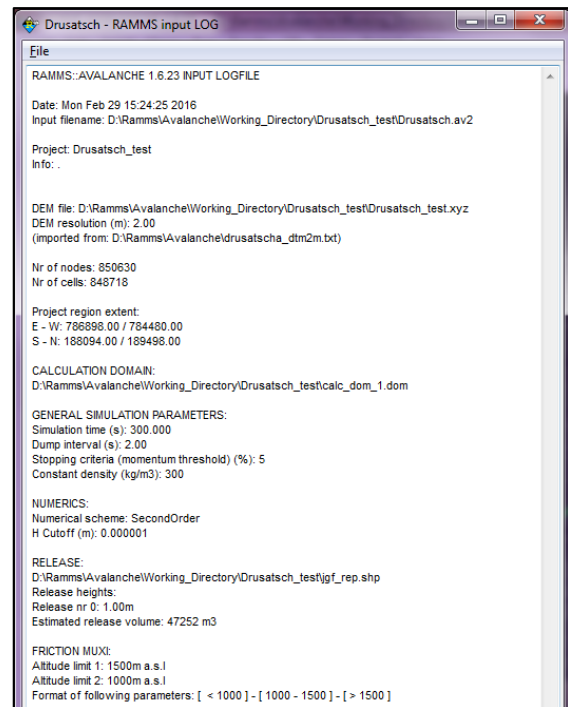

Figure 4.4: RAMMS Project Input Log file.
- (1) Information on simulation time and resolution. Be sure the simulation stopped due to **LOW FLUX**. Otherwise the output **TIME END CONDITION** informs you, that your simulation stopped before the avalanche reached the stopping criteria you defined for the simulation (see section 4.2.5 on page 63).
- (2) Information on simulation results.
- (3) Input logfile (see Figure 4.4).